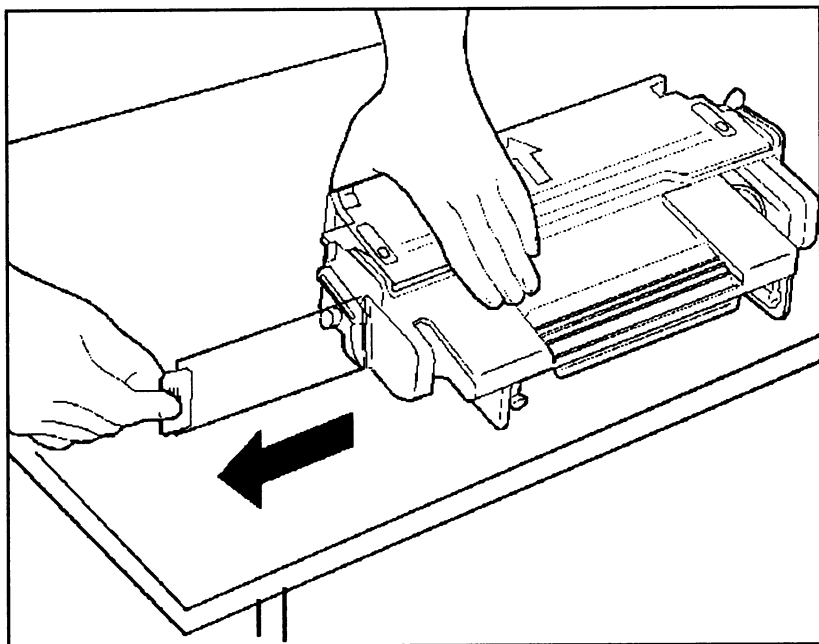

Figure 4-3 Removing the Toner Cartridge Sealing Tape
- 3 Remove the sealing tape by firmly grasping the tab on the right side of the toner cartridge and pulling it straight out the side of the cartridge. (See Figure 4-3.)